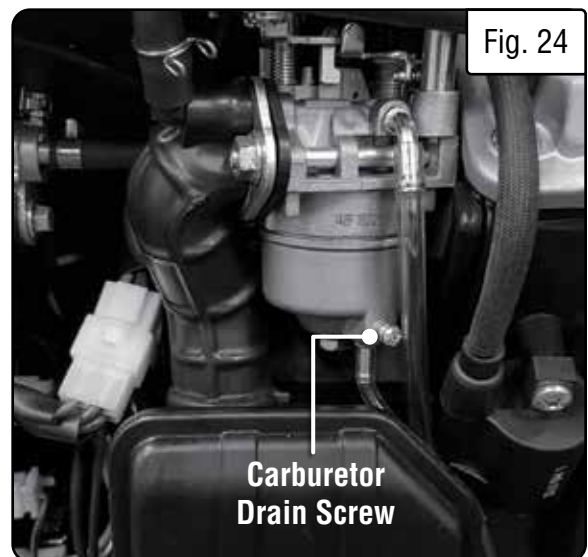

Fig. 24
2. Open up the carburetor drain screw (Fig. 24) with a Phillips screwdriver and drain out any gasoline that has built up inside the carburetor.